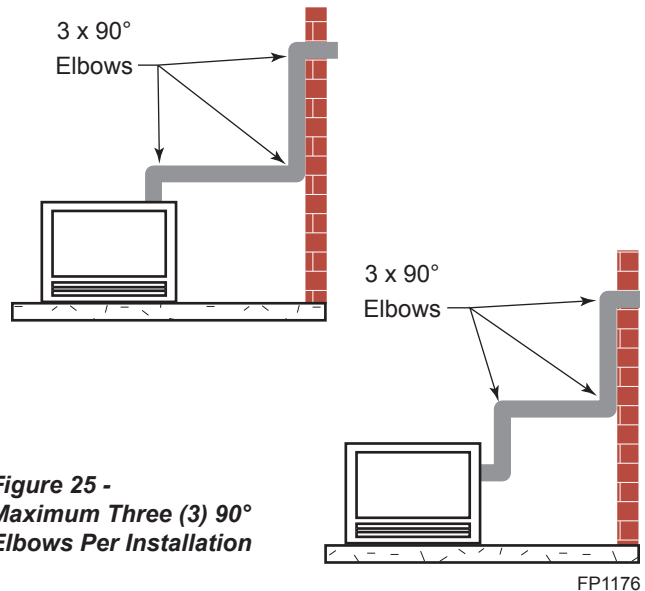

*Figure 25 -
- The maximum number of 90° elbows per side wall installation is three (3). *Figure 25*
Combustible Exterior Walls: Cut a 10½"H x 10½"W square hole through the exterior wall frame. Figure 25